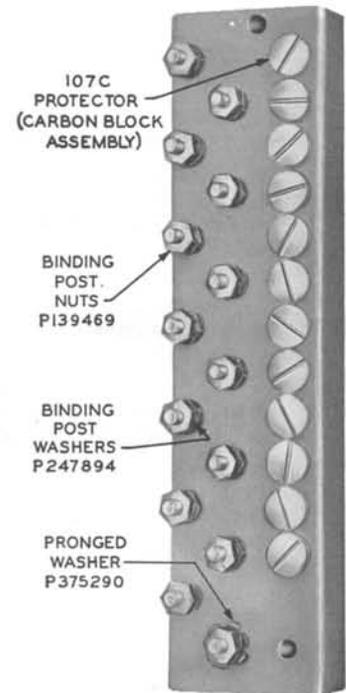

FIG. 7—117A PROTECTOR
3.05 The 117A protector shown in Fig. 7 is designed for use at indoor locations where multiple protection is required. It may be mounted in customer-provided cabinets. A GB-11 terminal box may be used to enclose the protector when necessary for appearance or other reasons. Before installing the protector in a terminal box, it will be necessary to drill two mounting holes in the terminal box. Fasten protector with screws (No. 10 self-tapping screws, type Z, 1-1/2 inches long) furnished with it. Since the mounting screws used for the protector will extend slightly beyond the back of the terminal, it will be necessary to drill lead holes in the mounting surface.